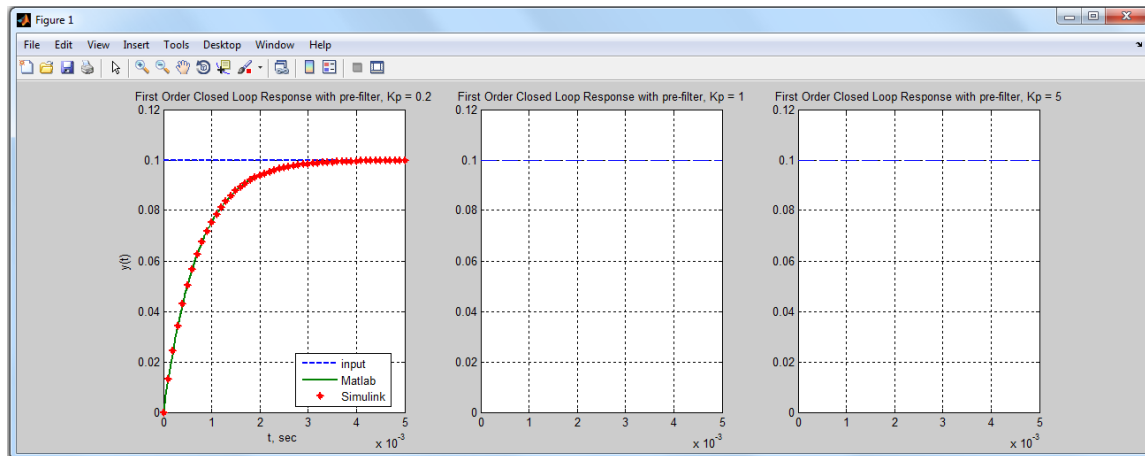

Figure 11: Closed loop control of a first order system using a prefilter
4. Rerun **Parts I and II**, for the first order system with $Kp = 0.2, 1,$ and 5 with a final time of 0.005 s. Put all three of the plots on a 1×3 grid by using a `subplot` command. Figure 11 shows the beginning of the plots.